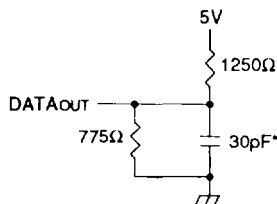

Figure 1. Output Load
Output Load	See Figures 1, 2 & 3
1. Transition is measured ±500mV from low or high impedance voltage with load (Figures 1, 2 and 3).
- Transition is measured ±500mV from low or high impedance voltage with load (Figures 1, 2 and 3).